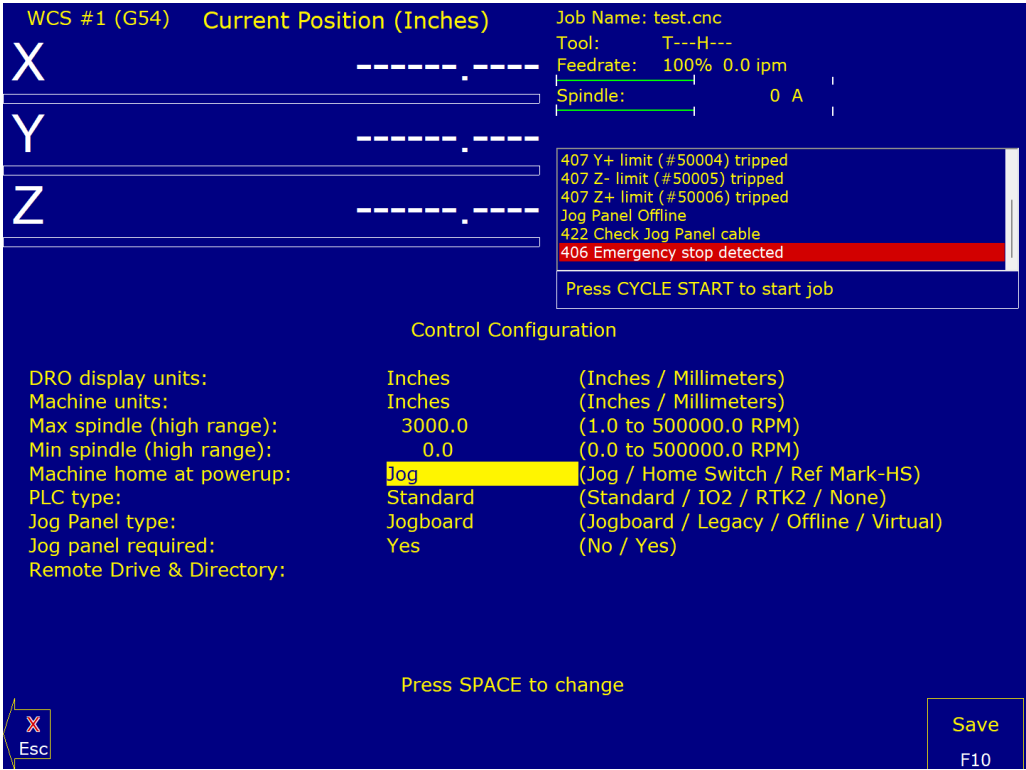

Figure 4.1.5
1. **Change Machine Home Type** Navigate to the “Control Configuration” screen as seen in Figure 4.1.5. From the main screen press **F1-Setup** → **F3 -Config**. The password is **137**. Then press **F1 Contrl**. Using the keyboard space bar change “Machine home at power up” to “Jog”. Press **F10-Save**